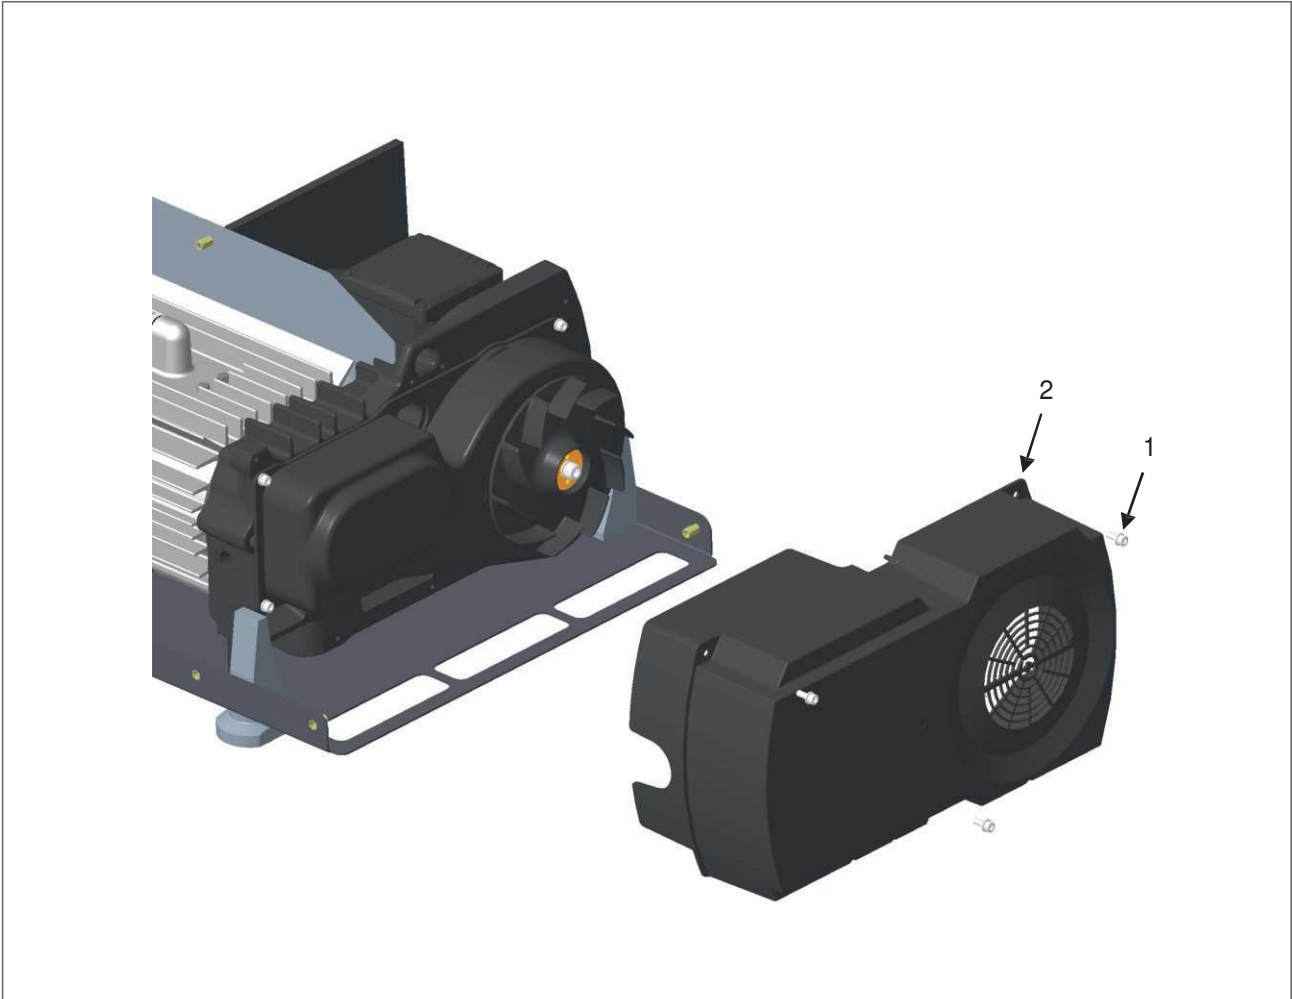

Figure 14 – Drive enclosure assembly
1. Assemble drive enclosure (Figure 14, Item 2) onto the bearing flange with 3 cap screws (Figure 14, Item 1) using 5mm Allen key.